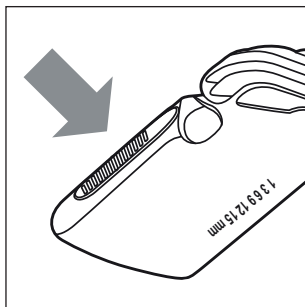

Fig. 5
- Press the button, when you push the comb attachment **10/11** upwards or downwards (see fig. 5). This makes it easier to release the comb attachment **10/11** from the catch and move it.
- ▶ Press the upper side of the button, when you push the comb attachment **10/11** upwards or downwards (see fig. 5). This makes it easier to release the comb attachment **10/11** from the catch and move it.